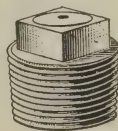
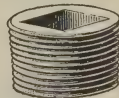

FIG. 38
FIG. 39
51. **Plugs** are fittings used to close tapped openings in fittings when the openings are not required. Fig. 38 shows the common form of plug; it is provided with a projecting square head for screwing up with a wrench, and is made of cast iron. Fig. 39 shows a faced plug. It is made so that there will be no projection, and has a square depression in the face of the plug for screwing it in with a square bar or key. These plugs are usually made right hand, but left-hand plugs can be had to order.